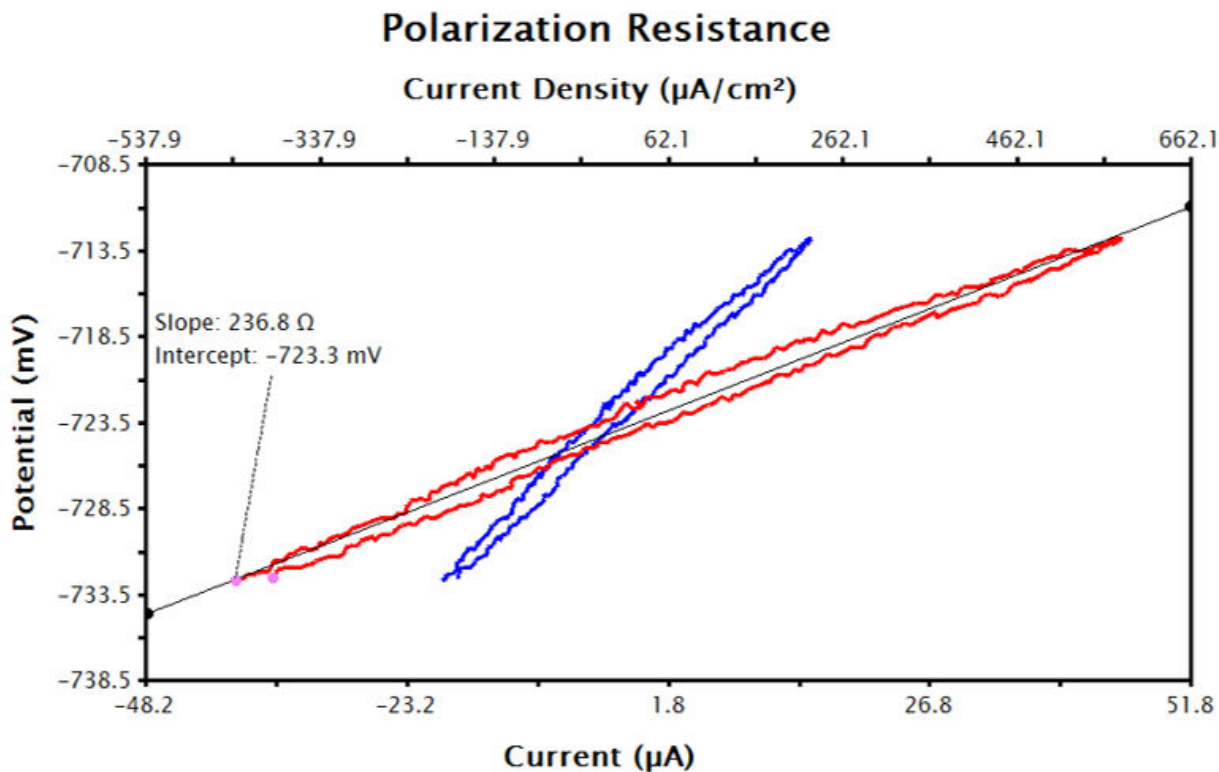

Figure 8. Raw (Red) and Current Density (Blue) IPR Data in AfterMath
The axes of a IPR voltage-current plot can be manipulated in AfterMath to a IPR voltage vs. current-density plot (see: Figure 8). For the example provided in Figure 8, the current data were normalized to a  $0.20 \text{ cm}^2$  electrode area and the data was appended to a secondary x-axis (as opposed to replacing the existing x-axis). To manually manipulate the axis of a data plot such as adjusting the IPR voltage-current plot to a IPR voltage vs. current-density plot:
- The units on the plot should now be ( $mA/cm^2$ ). Note that “micro” was selected for Figure 8 and the resulting units are ( $\mu A/cm^2$ ).